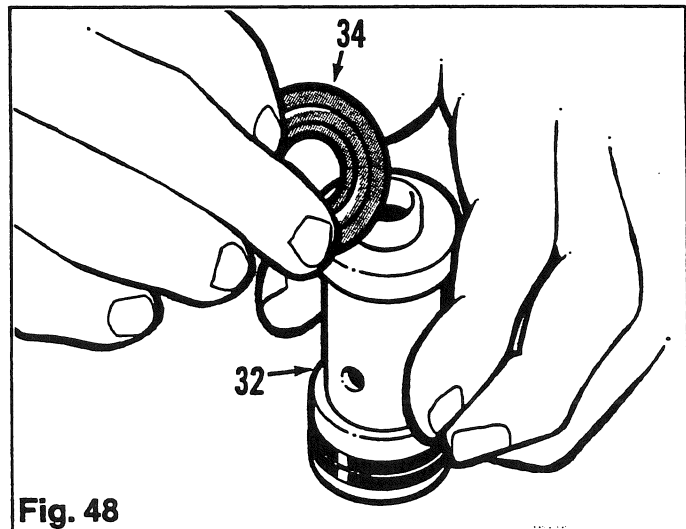

Fig. 48
6. Apply clean brake fluid to new cups (34) and install them on the piston (32). (Fig. 48)